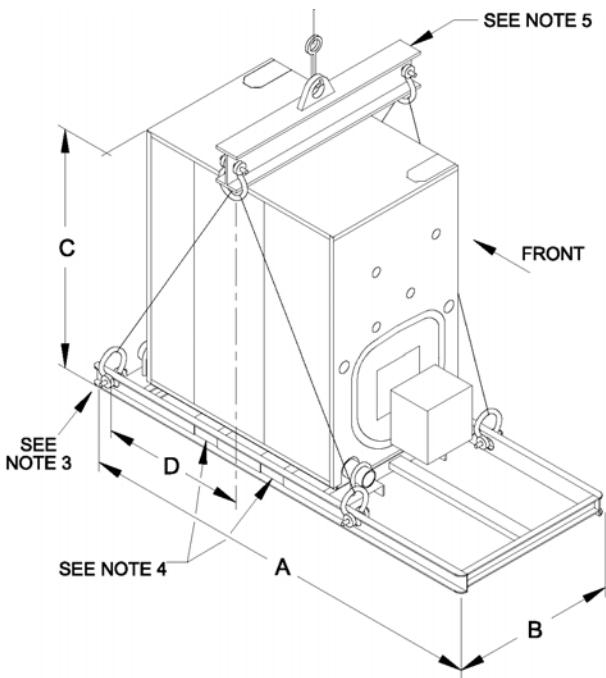

Figure 25: Shipping Information
- The packaged boiler comes on its own shipping skid (see Figure 25) and the assembled block is hydrostatically tested at the factory. Once the boiler is in its final position, perform another hydrostatic test at 1½ times the working pressure of the boiler. Before boiler is put into service, all draw up rod nuts should be loosened and then retighten to finger tight plus 1/2 turn. The shipping skid can be used as a housekeeping pad unless local codes say otherwise. All controls are pre-wired down to the burner. If burner is equipped with a lead lag panel, lead lag controls will be shipped loose for header mounting. The power can be supplied to the burner if equipped with a control panel. If burner has no panel, the power is supplied to the J-box on the front jacket.